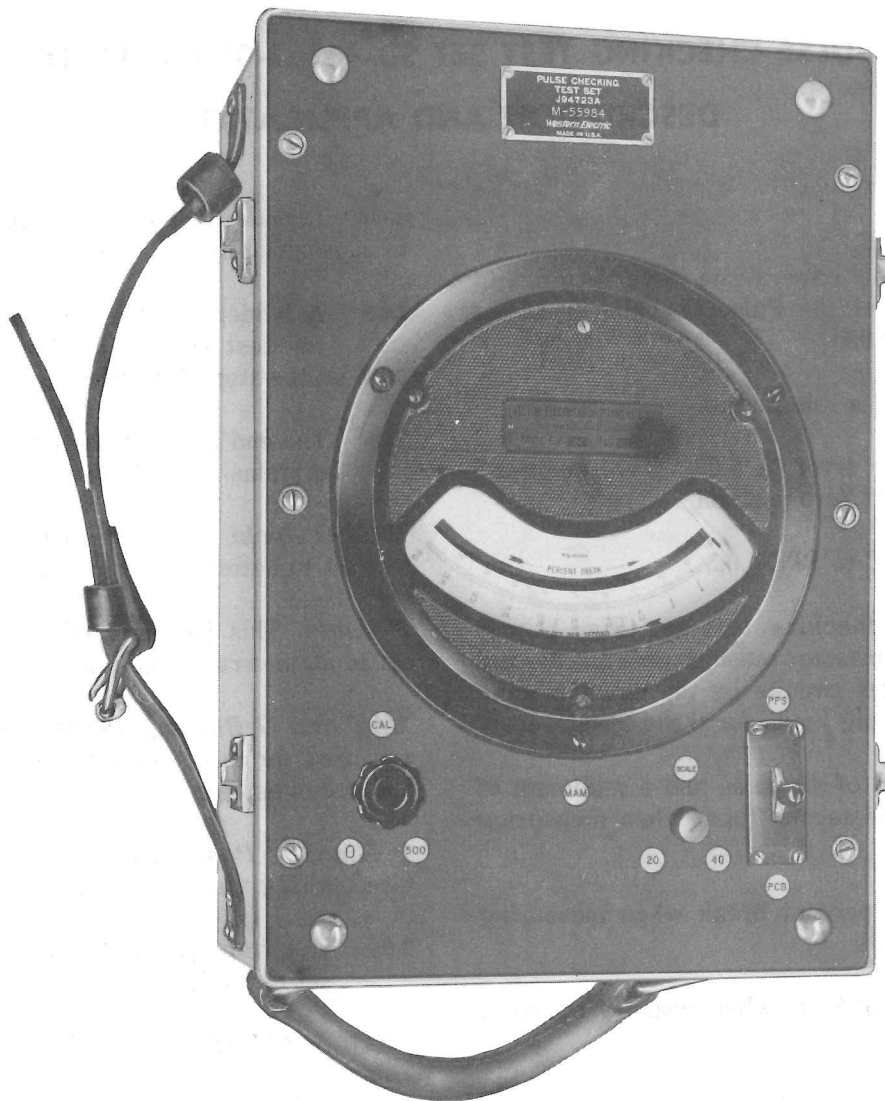

Fig. 1—Pulse Checking Test Set
1.03 The pulse checking test set (Fig. 1) was designed to measure pulsing speed and percent break of interrupter circuits by the direct reading method. The working limits for these tests are: